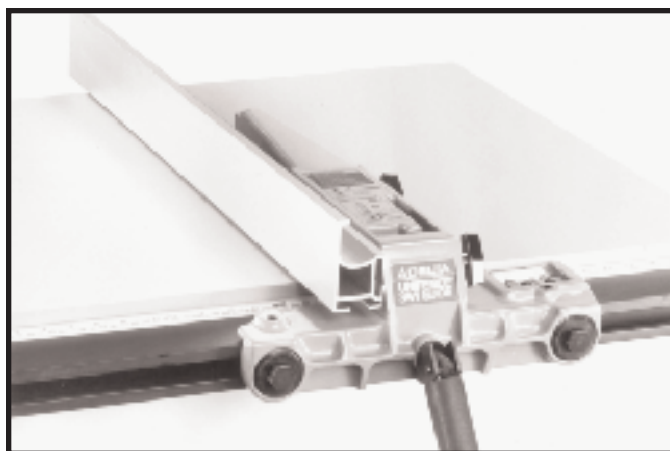

Fig. 50
2. For most normal ripping operations of standard size lumber the fence is used in the vertical position, as shown in Fig. 50.